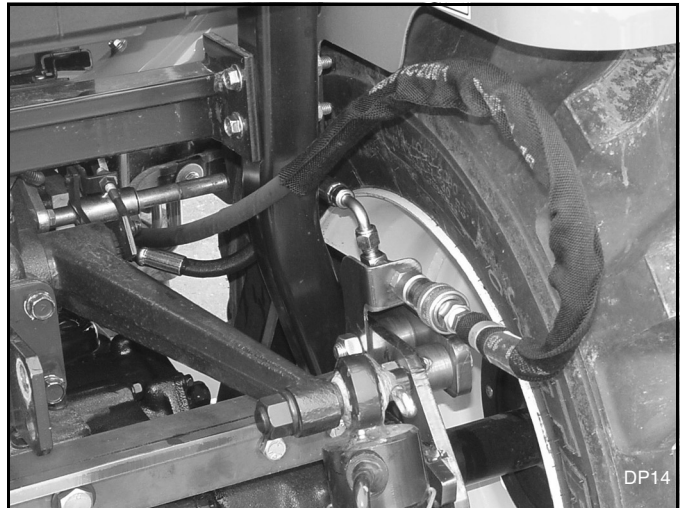

Figure 28. Hose Connection - Backhoe Removed
**TRACTOR:** Connect male quick coupler on end of hose to female quick coupler at bulkhead bracket when backhoe is removed from tractor. See Figure 28.